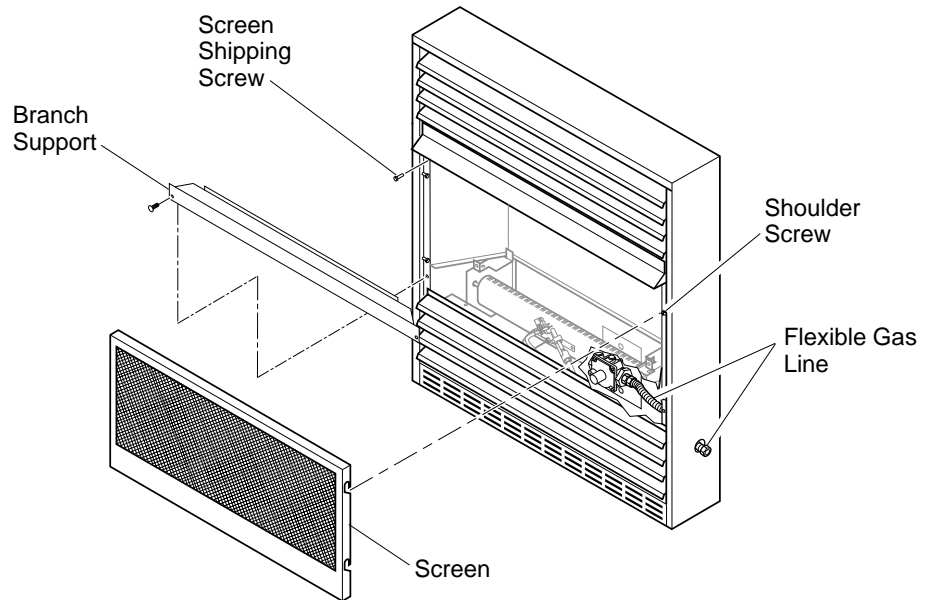

Figure 23 - Removing Log Base Assembly From Fireplace
2. Remove screws that attach branch support to fireplace (see Figure 23). Carefully lift up branch support and remove from fireplace (see Figure 23).